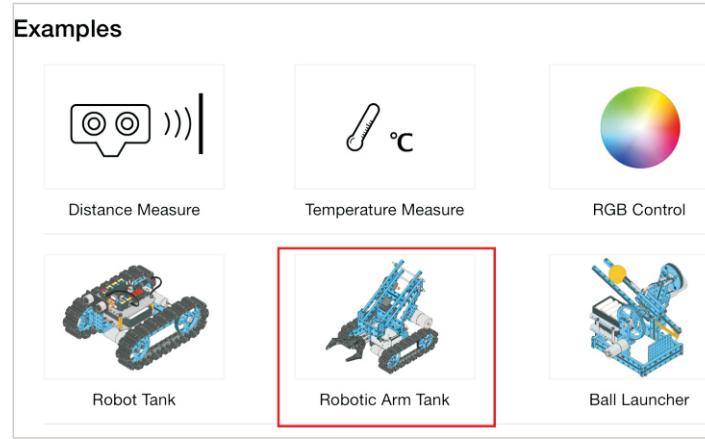

Figure 2
- 4、Run Makeblock app,select your robot from Examples.(Figure 2)